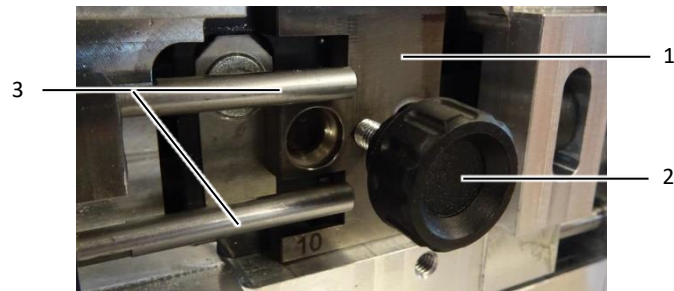

Fig. 8: Ferrule nests with guide pins
- Use the knurled screw (fig. 8, item 2) to remove the ferrule nests (fig. 8, item 1).
- Pay attention to the guide pins (fig. 8, item 3) during removal and installation.